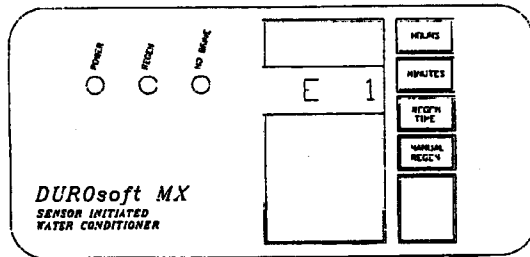
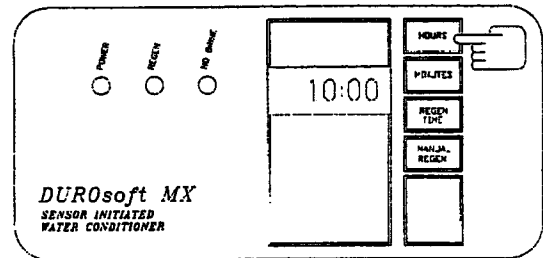

Figure 1
Figure 2
If the ground from the electrical panel or breaker box to the water meter or underground copper pipe is tied to the copper water lines and these lines are cut during installation of the Noryl bypass valve and/or poly pipe, an approved grounding strap must be used between the two lines that have been cut in order to maintain continuity. The length of the grounding strap will depend upon the number of units being installed and/or the amount of copper pipe being replaced with poly. See Figure 1.
In all cases where metal pipe was originally used and is later interrupted by poly pipe or the Noryl bypass valve as in Figure 1 or by physical separation as in Figure 2, to maintain proper metallic pipe bonding, an approved ground clamp c/w not less than #6 copper conductor must be used for continuity.
- Plug the 24 volt transformer into a live 120 VAC 60 Hz outlet. The "power" light and display will come on. Wait 30 seconds, then set the hours by pressing and holding the "hours" keypad, then set the minutes by pressing and holding the "minutes" keypad (see detailed instructions on page 3, Figure 2). If you inadvertently press the "hours" keypad within 15 seconds, the unit will go into a diagnostic mode indicated by the word "OFF" being displayed. To exit the diagnostic mode and reset the unit, unplug the unit from the electrical outlet and plug it back in. Wait 30 seconds and set the hours and minutes as described above.
### Display Codes (Figure 1)
(Figure 2)